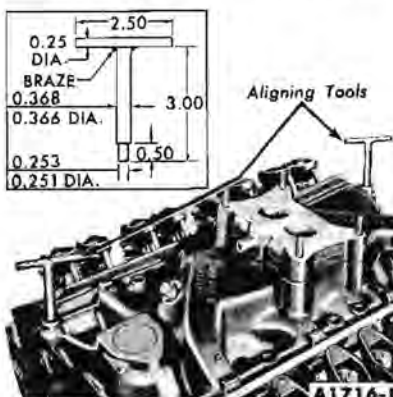

FIG. 20—Intake Manifold Alignment
Intake manifold alignment tools are required when installing the intake manifold on the cylinder block and cylinder heads. Fabricate two alignment tools according to the specifications shown in Fig. 20.
5. Be sure the holes in the manifold gaskets and manifold are in alignment. Position the intake manifold alignment tools (Fig. 20) in the front and rear bolt holes (Nos. 10 and 12) on the left bank of the manifold.